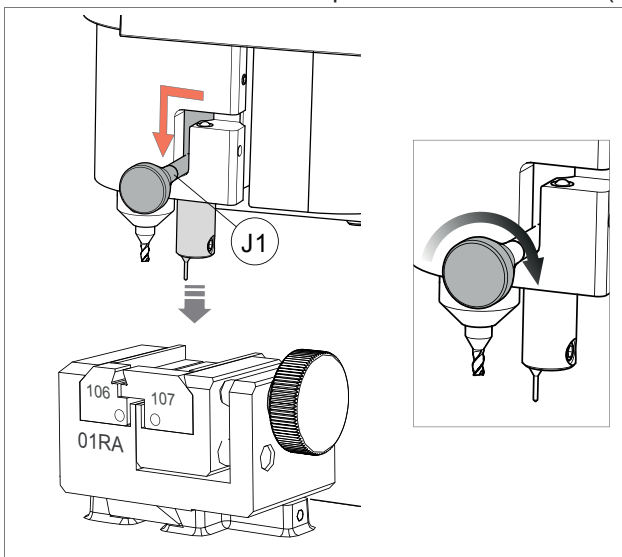

Fig. 49
- **ACTIVATING THE TRACER 07T (Fig. 49)**